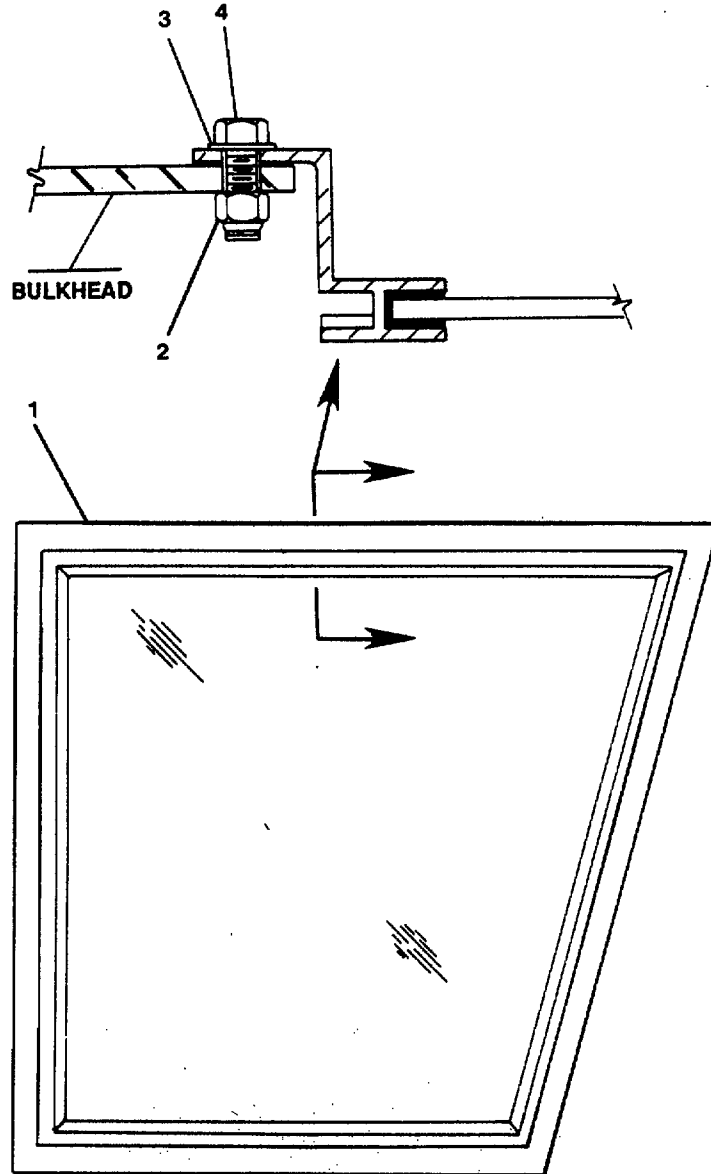

FIGURE 3-181. Replace Fixed Window, Right/Left Hand.
- a. Support fixed window (1, Figure 3-181).